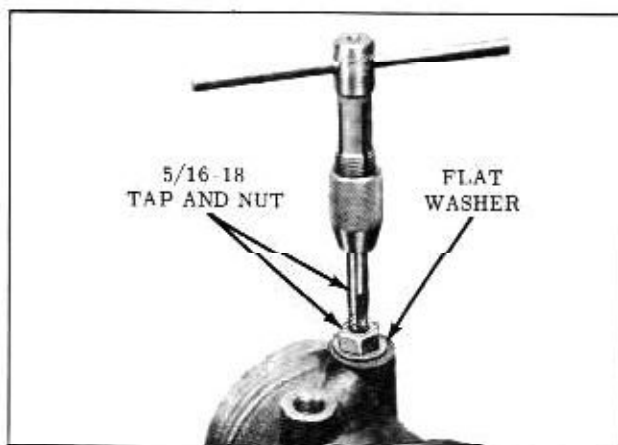

Fig. 4-65 Removing Hose Connector
3. With the steering gear in a vertical position, thread the tap into the connector seat not more than 3 turns. (Fig. 4-65)